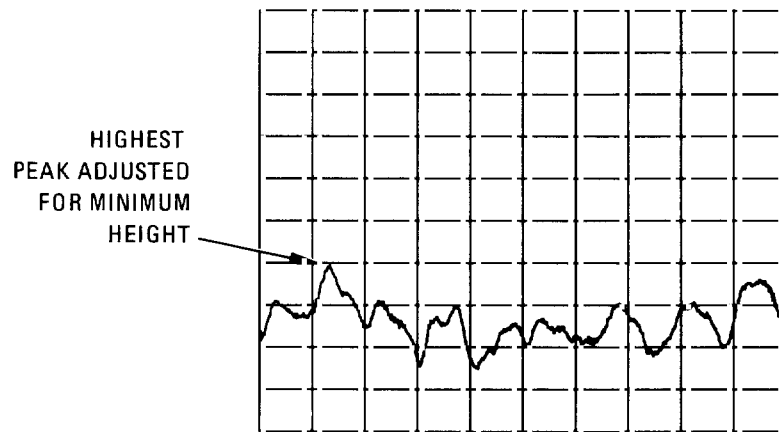

Figure 5-54. Oscilloscope Display at A26TP3 MOD LVL with no Squegging
7. The oscilloscope display should be similar to Figure 5-54. Adjust A24R12 (MIN) so that all points on the trace are reduced to the lowest possible voltage level (i.e., maximum negative voltage).
17. Press **[RECALL] [2]** on the DUT. The oscilloscope display should be similar to Figure 5-54. Adjust A24R12 (MIN) so that all points on the trace are reduced to the lowest possible voltage level (i.e., maximum negative voltage).